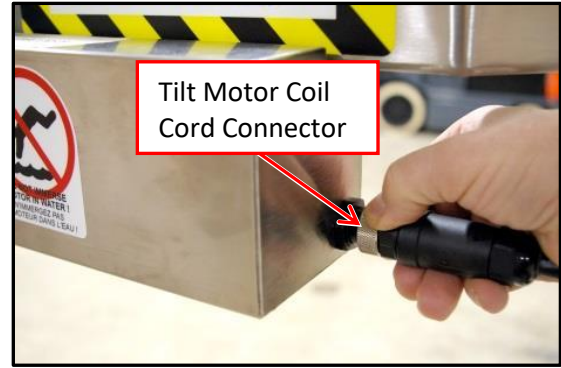

Figure 79 – Disconnect the Coil Cord
1. Unscrew the tilt motor coil cord connector and disconnect it from the tilt motor assembly (Figure 79).